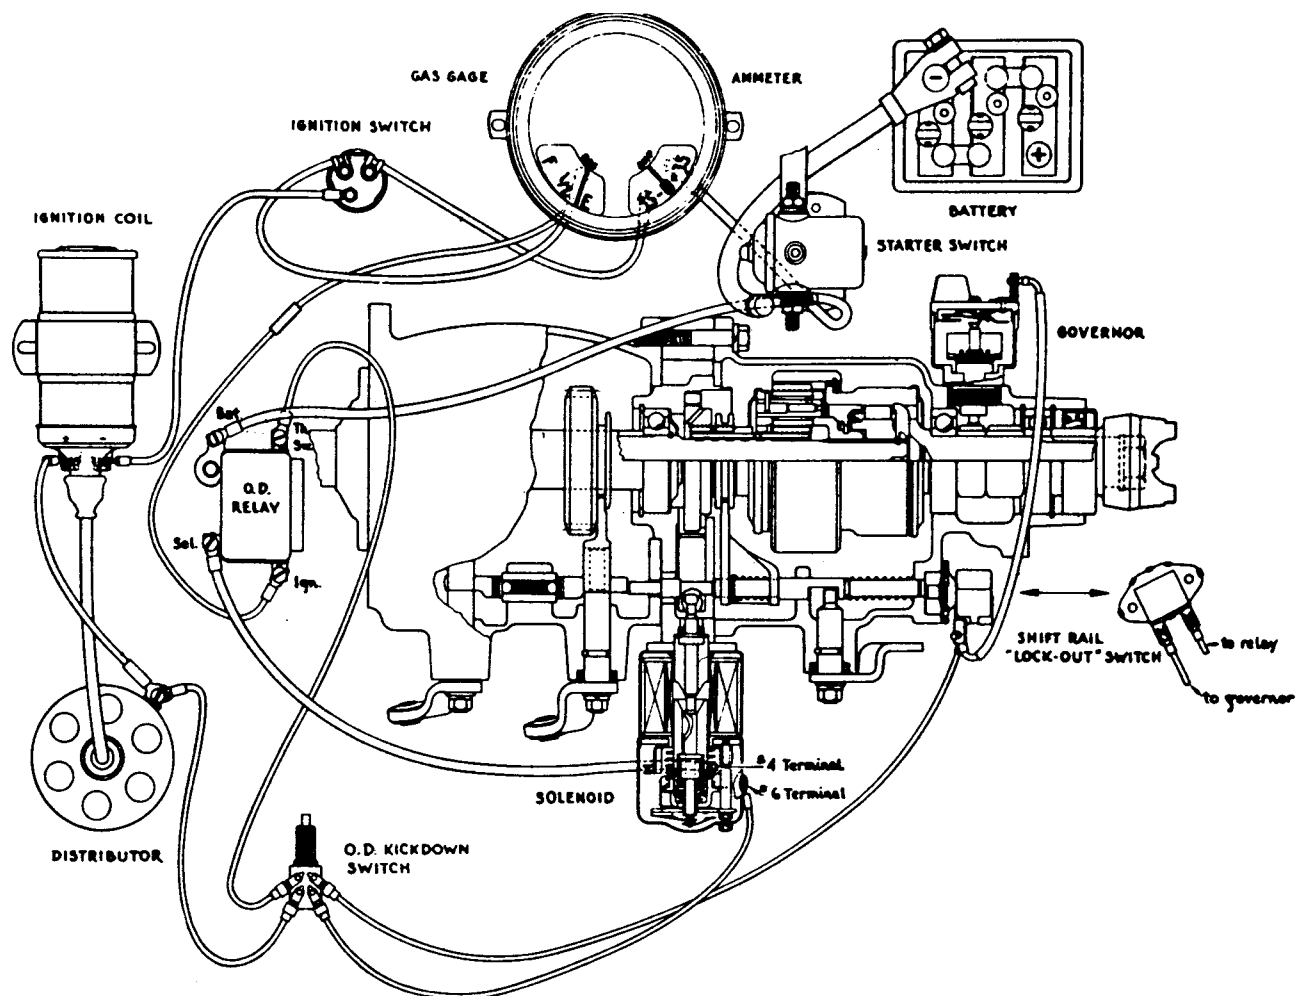

Figure 9.
α. While the mechanical structure of the overdrive unit, just described, may be considered the working portion of the combination, its automatic action is controlled entirely by the external electrical control system. This system consists of certain units, connected by a wiring circuit. Whereas, the electrical units are practically identical for the various makes and models of cars with overdrive equipment, there are variations in the wiring circuit. The wiring circuit as shown in the diagram (Fig. 9) applies as shown on 1949 Studebaker, Kaiser, Frazer, Willys and Nash cars (the latter with relay terminals marked "2" instead of "Th Sw", and "1" instead of "Sol"). It applies on 1949 Ford, Mercury and Lincoln cars except that the "Ign" and "Bat" terminals are combined and connected to the ignition switch. It applies on the 1949 Packard cars excepting that the lockout switch is in the circuit between the relay and ignition switch instead of between the relay and governor. 1949 Hudson cars employ a circuit, which while broadly similar in operating principles, is sufficiently different that Fig. 9 does not apply, and the reader is referred to the current Hudson's dealer's service manual, for specific information on this circuit.
- k. Improperly wired (14-a, Fig. 9).
- f. Improperly wired (14-a; Fig. 9).
- c. Open or missing connection between solenoid No. 6 terminal and distributor (20-a; Fig. 9).